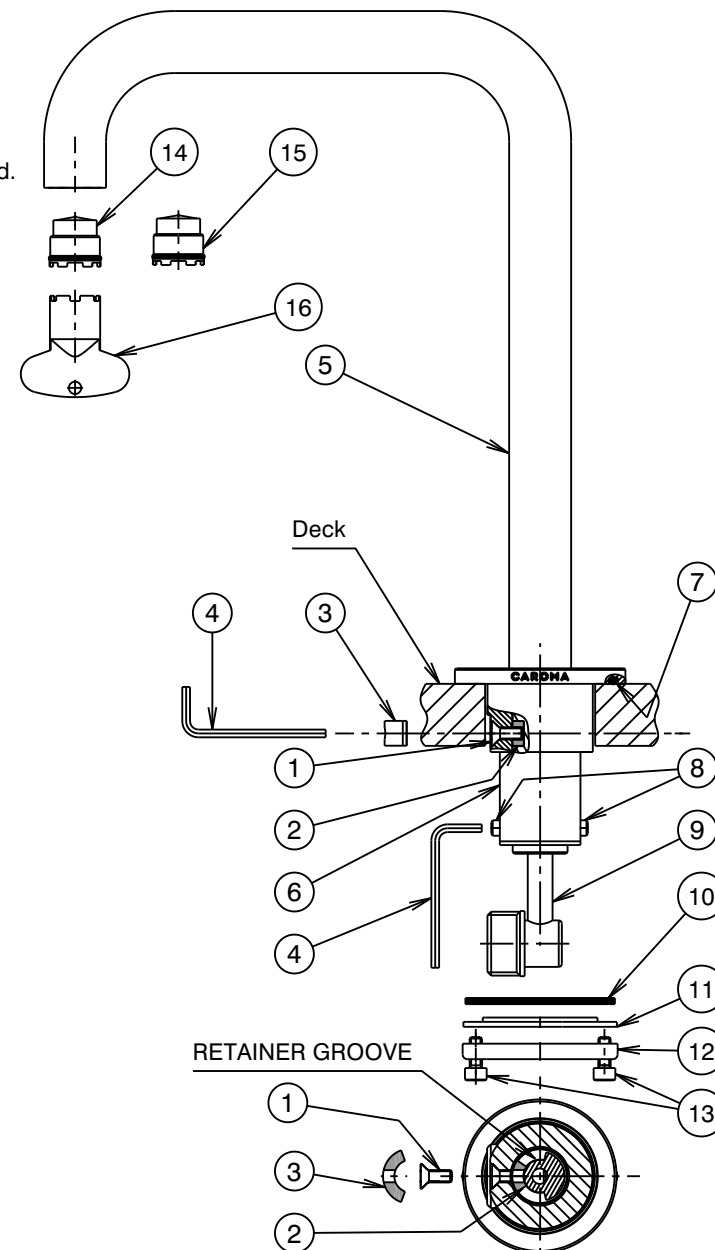

Fig. 1
- 1) Outlet is fitted with 140° limited swivel retainer (2). To suit single bowl installations, swivel limit can be changed by swapping the 140° retainer (2) with 70° retainer (3) following below steps :- Remove screw (1) using allen key (4) & pull out outlet (5) from housing (6), remove retainer (2) from retainer groove. See Fig. 1
- 2) From spare bag, fit retainer (3) into retainer groove in outlet assembly (5), insert outlet together with retainer (3) into housing, push it all the way down until the retainer (3) hole is aligned with the screw (1) hole, turn the outlet (5) if required to align the holes. Tighten the screw (1) using allen key (4). DO NOT OVERTIGHTEN.
- 1) Ensure 'O'ring (7) is fitted into groove in the housing (6), insert housing (6) through the hole in the deck. Adjust position of the outlet to ensure "CAROMA" logo facing forward as shown (Fig.1)
- 2) Fit washer (11) together with flat seal (10) over threaded tail of housing (6) as shown (Fig.1). Screw clamp ring (12) onto threaded tube until it contacts washer (11) & the flat seal (10) has contacted the underside of the deck. Tighten two screws (13) using a 3mm allen key until outlet is clamped firmly to the deck. DO NOT OVERTIGHTEN.
- 3) To suit the installed position of Remote hob mixer 99687, the connection elbow (9) can be rotated upto 360°. Loosen the two screws (8) slightly using 2.5mm allen key (4), rotate connection elbow (9) to required position, tighten two screws (8) to secure the new position of connection elbow (9).